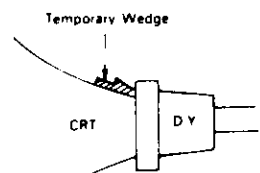

FIGURE 5
4. Move the two Purity Magnets and bring the Magenta belt to the mechanical center of the screen (See Fig. 5) The vertical center position should be set VRS to $-5/64$ " (-2 mm) as shown in Fig. 6.
10. Insert the temporary wedge as shown in Fig. 5 and adjust the angle of Deflection Yoke.
- 1.7 Spread the tabs apart as little as necessary and rotate both rings together to center the red band horizontally on the face of the CRT (approximate). (See Fig. 5)